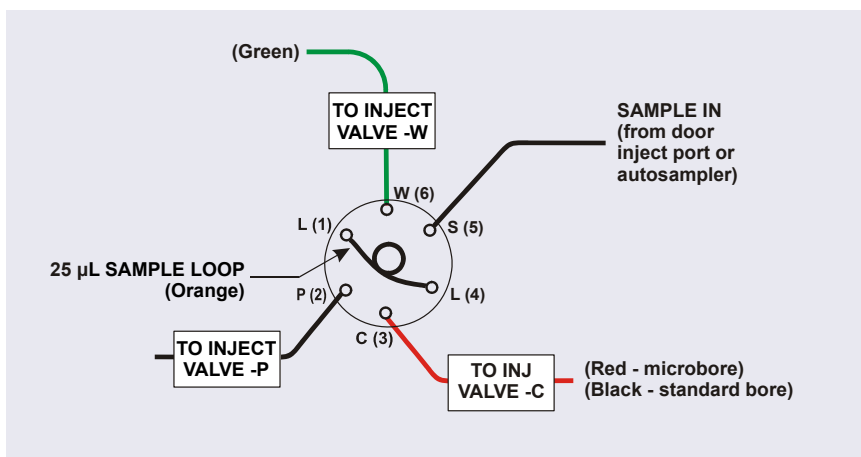

Figure 9-76. Injection Valve Plumbing (6-Port Valve)
6. Reconnect all liquid lines to the injection valve (see Figure 9-76).